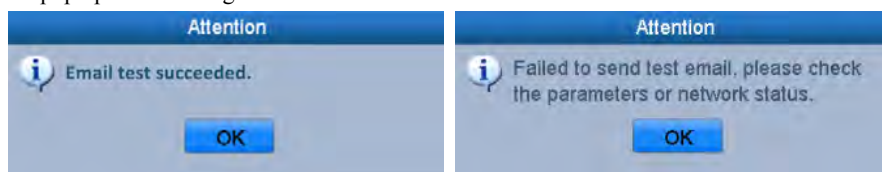

Figure 11. 21 Email Testing Attention
7. You can click **Test** button to test whether your Email settings work. The corresponding Attention message box will pop up. Refer to Figure 11. 21.